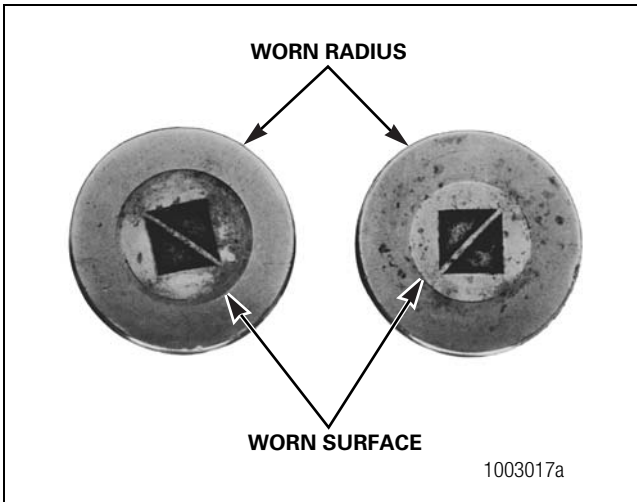

Figure 3.24
- The radius at the large diameter end of the rollers is worn to a sharp edge. Figure 3.24.